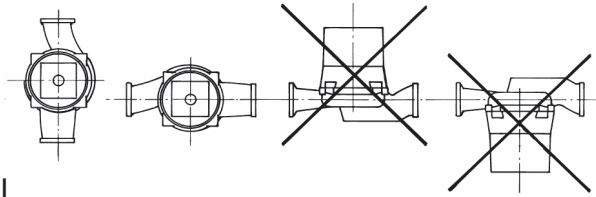

Fig. 1
- 1) The pump should always be installed with the pump shaft horizontal (see fig. 1). Direction of flow through the pump casing is indicated by an arrow.